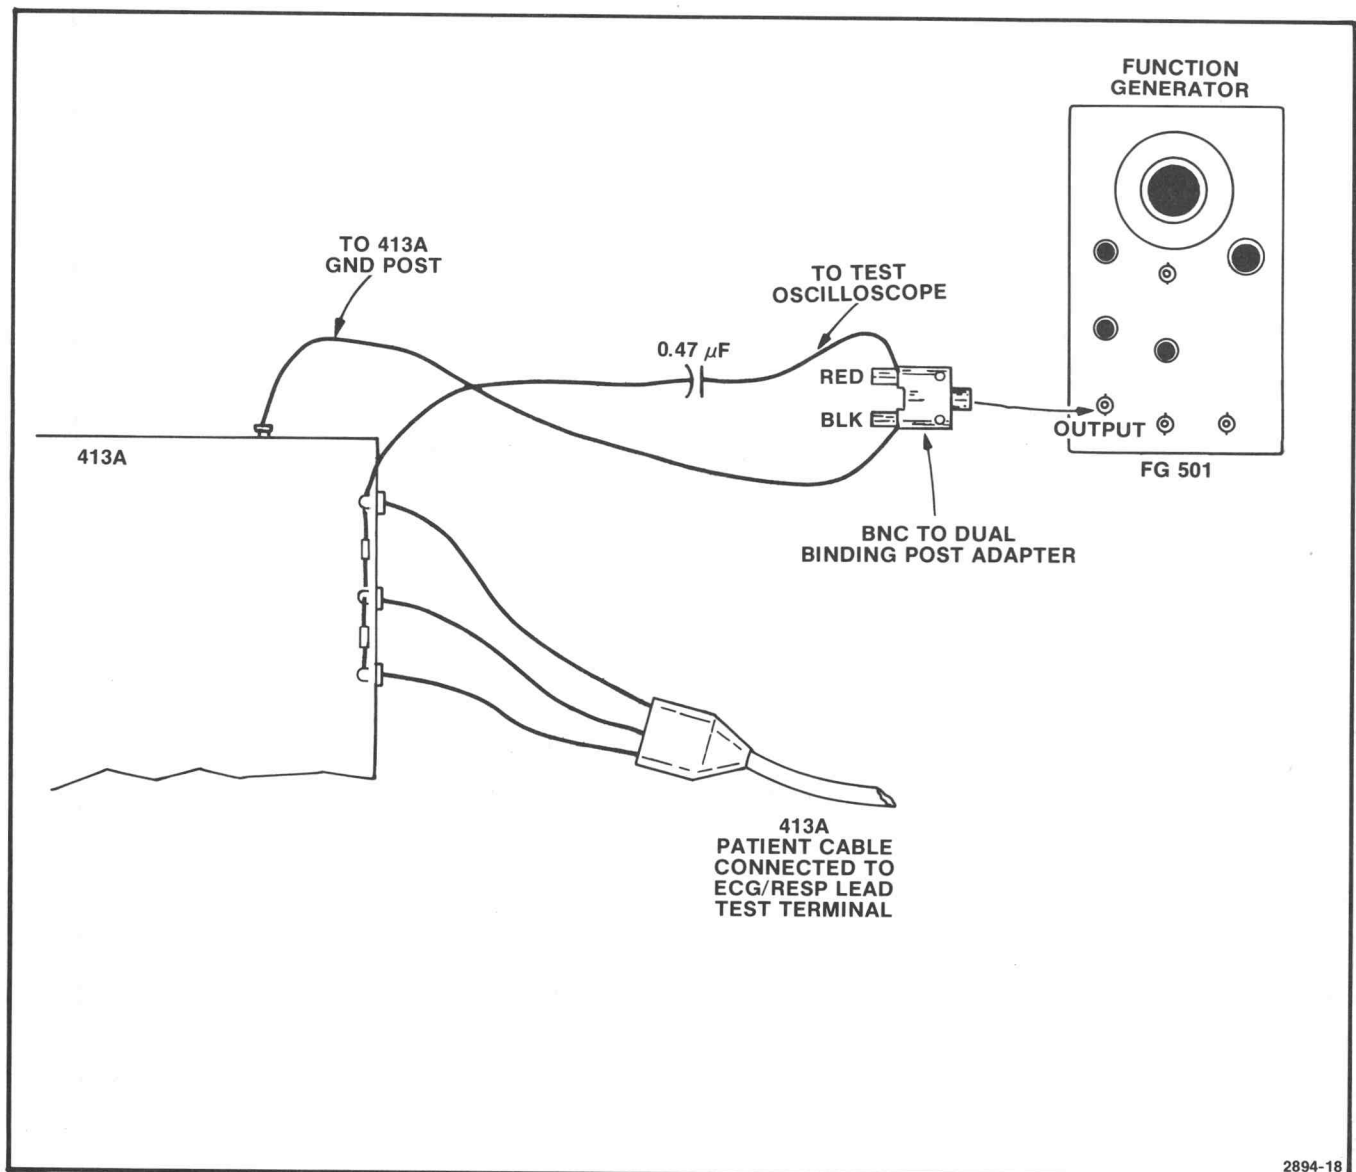

Fig. 4-15. Pacer test setup.
a. Connect output of function generator to rear lead test output through a 0.47 μ F capacitor (see Fig. 4-15).